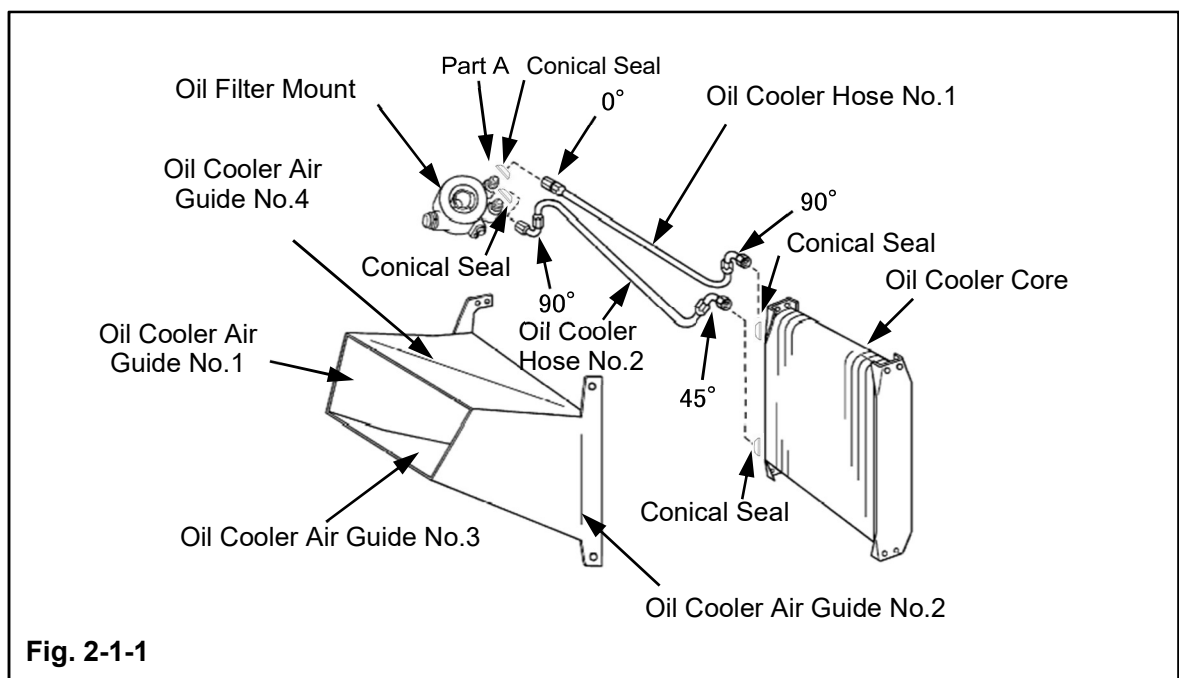

Fig. 2-1-1
- (1) Install the O-ring on the Oil Filter Mount. (P2×1, P4×1)
- (2) Attach the Oil Filter Mount to the oil filter mounting part using the Attachment Bolt A. (Fig. 2-1-1)
(Fig. 2-1-1) (P10×1, P11×1, P12×1, P13×1, P19×8, P20×16, P21×8)
- (1) Install the Oil Cooler Hose No. 1 and 2 to the Oil Cooler Core and Oil Filter Mount. (Fig. 2-1-1, Fig. 2-4-1, Fig.2-4-2) (P5×1, P6×1)